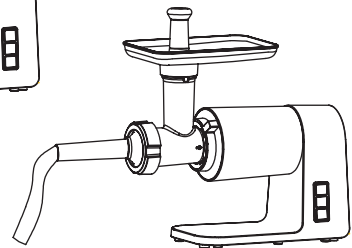

Figure 10.
2. Thread the sausage casing to the sausage attachment (fig. 10).